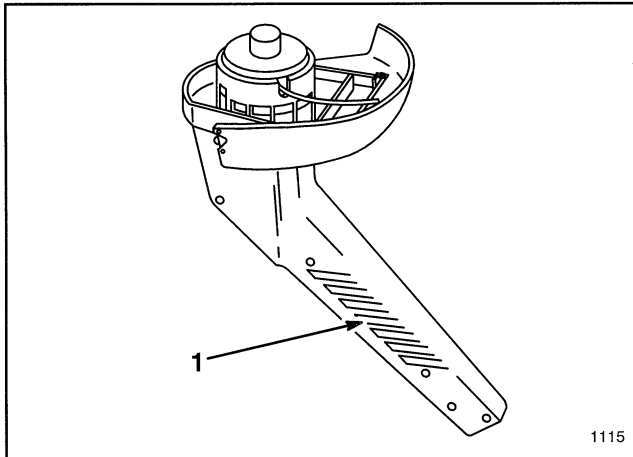

Figure 23
4. Scrape debris away from air intake vents in both sides of motor housing (Fig. 23).